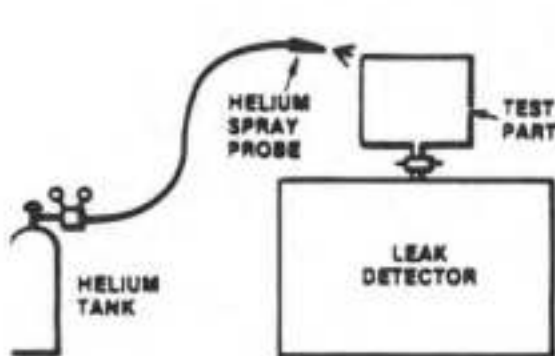

Figure 1-2. Test piece evacuated; tracer gas spray probe used to locate leak.
(1) TEST PIECES EVACUATED (FIGURES 1-2 AND 1-3)